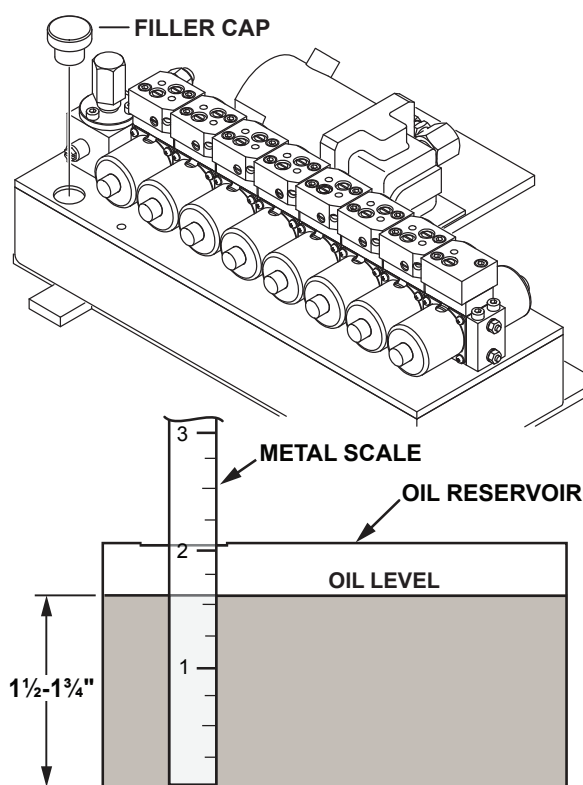

Figure 4-5. Oil Level Check
1. Remove four (4) screws that secure the service access cover to the base.
3. Remove the oil filler cap from the oil reservoir (Figure 4-5).